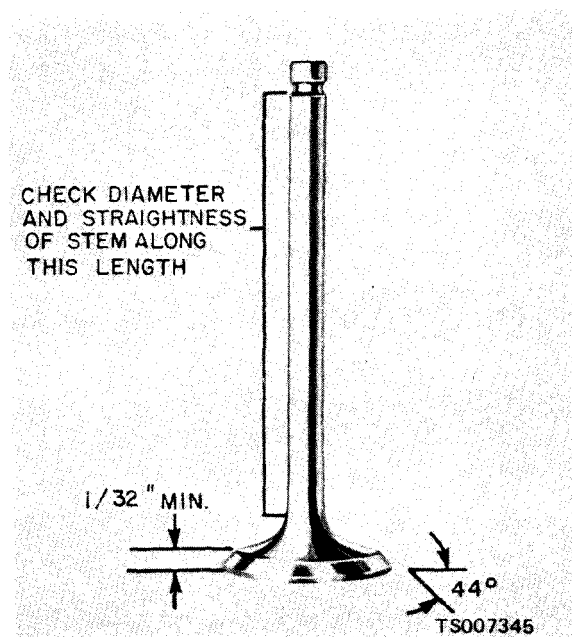

Figure 6-16. Valve Inspection.
b. Inspection. Refer to figure 6-16 for all inspection and measurement points, and proceed as follows:
the pits and grooves. If the edge of the valve head is less than 1/32 inch thick after grinding (fig. 6-16), replace the valve as the valve will run too hot in the engine.